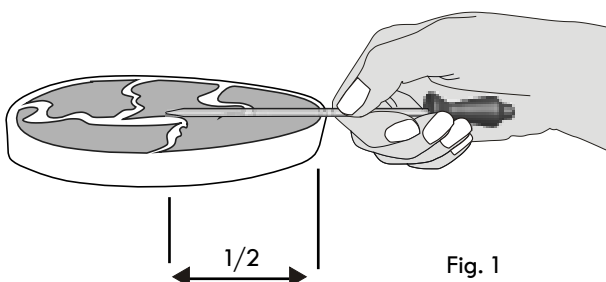

Fig. 1
- For bone-in ham or lamb, insert the probe into the center of the lowest large muscle or joint. For dishes such as meat loaf or casseroles, insert the probe into the center of the food. To find the center of the food visually measure with the probe -Fig. 1-. When cooking fish, insert the probe just above the gill.